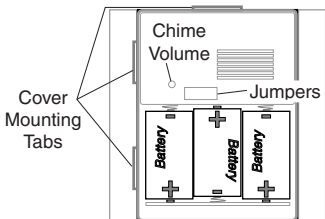

Figure 2
- 2. Install 3 alkaline "D" batteries.** Make sure batteries are oriented properly (see Figure 2).
5. Replace batteries (see Figure 2). Place chime cover over base.